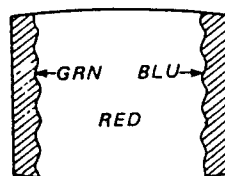

Fig. 3-2.
5. Move the deflection yoke back, and adjust the purity control so that Ⓐ is in the center and Ⓑ and Ⓒ are at the sides, evenly. (Fig. 3-2.)